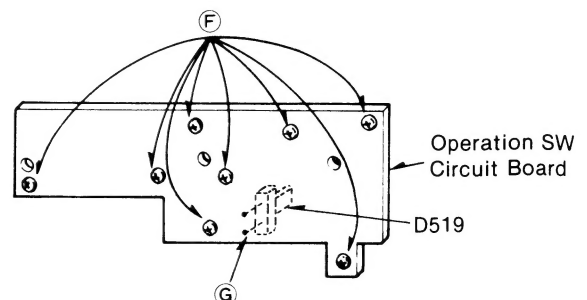

Fig. 3
To replace the parts on the keyboard circuit, first, remove the eight screws (F), and then desolder two terminals (G) of LED's (D519). The Operation Chassis can then be removed from the Base Plate and the parts be replaced. (Refer to Fig. 3).